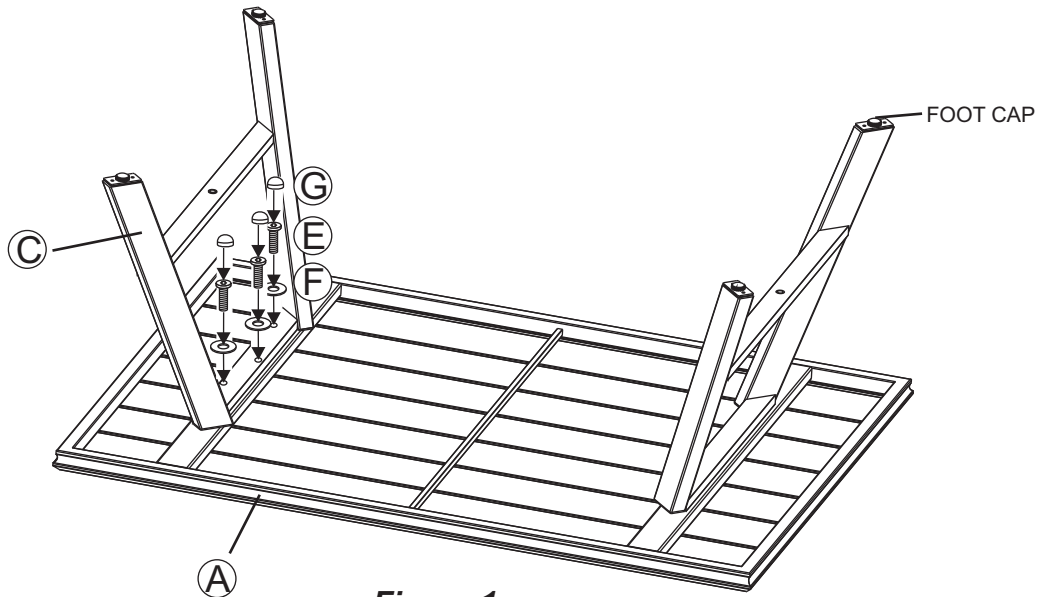

Figure 1
- 1 Place the table top upside down on a flat, non-abrasive surface. Attach a table leg to the table top by using three 1/4"x28 mm bolts and washers as shown in **Figure 1**. Guide the bolts through the holes in the table leg into the pre-drilled holes in the table top. **Hand tighten only 2-3 turns**. Repeat for the other leg.